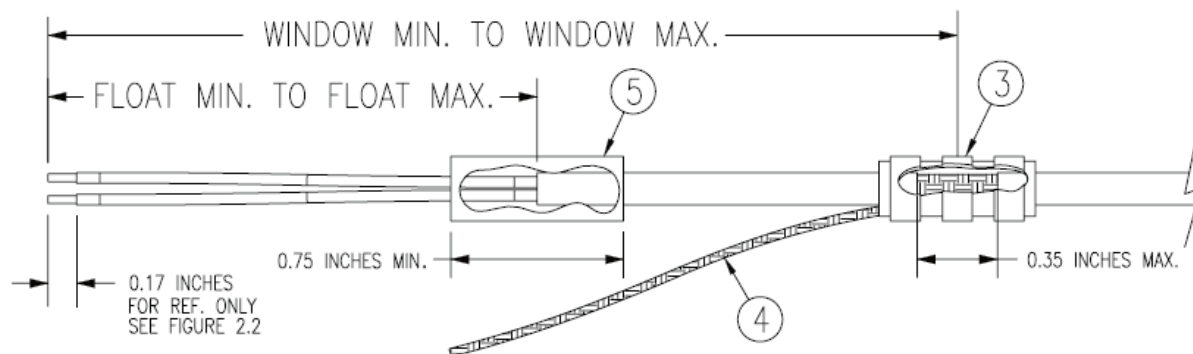

Figure 16-6 Method A.1 for Shield Termination
2. At one end of a shielded cable (item 2) measure a distance between “Window Min” to “Window Max” (Table 16-6) and cut a window (max size 0.35”) in the jacket to expose the shield (Figure 16-6). Use caution when cutting the jacket to avoid damaging the individual braids of the shield. When dealing with a densely populated connector with many cables, it may prove beneficial to stagger the windows throughout the “Window Min” to “Window Max” range. If staggering is not needed the “Ideal Window” length is recommended.
3. Connect a Flat Braid (item 4) to the shield exposed through the window of the prepared cable assembly (item 2) from step 2. The Flat Braid should go out the front of the termination towards the connector. It is not permitted to exit the rear of the termination and loop back towards the connector (Figure 16-6). Make this connection using an approved shield termination technique.
4. At the same end of the shielded cable (item 2) and ahead of the previous shield termination, strip back “Float Min” to “Float Max” (Table 16-6) length of jacket and shield to expose the insulated center conductors (Figure 16-6). The “Ideal Float” length may be best to build optimally.